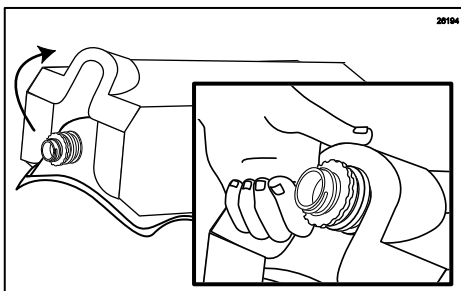

Figure 160
6. Place the tray up-side-down over the bag and pull the fitment into the tray opening as shown. The tray opening should slide between the grooves of the bag fitment. (See Figure 160.)